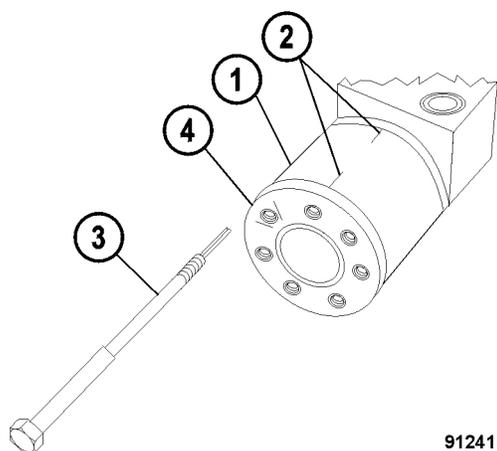

FIGURE 5-4. MARKING VALVE COMPONENTS
2. Match mark gear wheel set and end cover to insure proper relocation during reassembly. Refer to Figure 5-4.
3. Remove end cover capscrews and washers. Remove capscrew with rolled pin (3, Figure 5-4). Mark hole location of capscrew with rolled pin on end cover to facilitate reassembly.